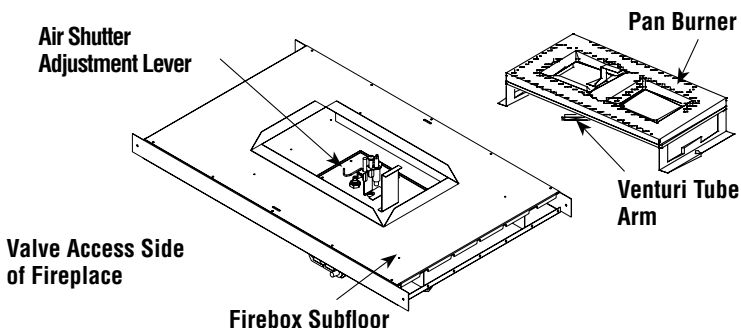

Figure 66
c. Locate the two (2) latches at the top of the control compartment. To disengage the two latches from the bottom vee-flange of the glass enclosure panel, reach for the handles located towards the back of the latches and pull the handles down toward the front of the appliance.
Step 3. Referring to **Figure 66**, remove the burner.
Ensure that the arm of the venturi of the burner is hooked onto the air shutter adjustment lever (refer to **Figure 66 on Page 40**). The primary air opening can be adjusted by rotating the adjustment lever from beneath the firebox floor. Refer to **Figure 64 on Page 35** for the recommended minimum primary air shutter opening setting.